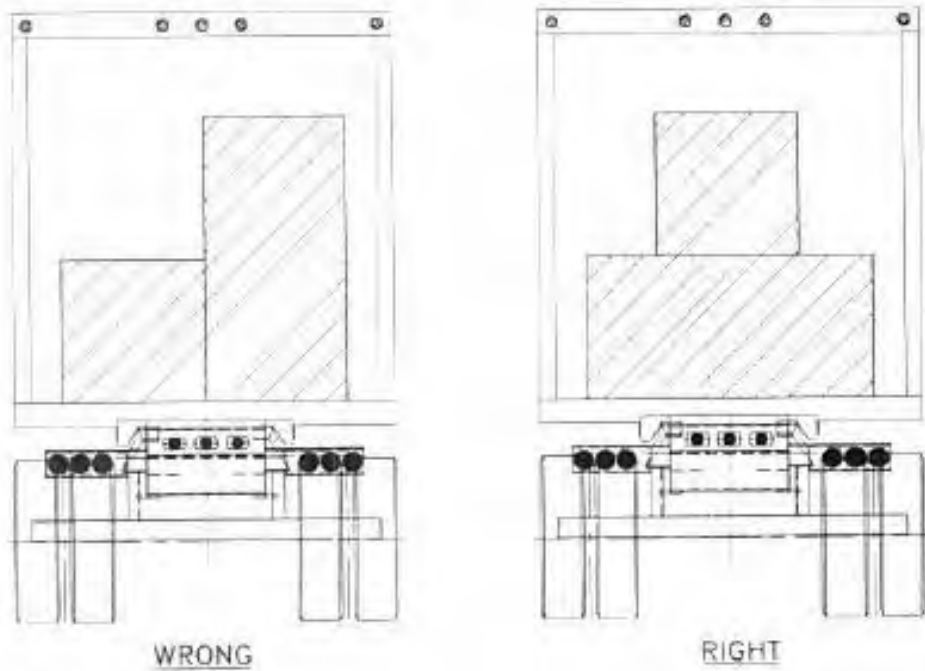

Figure 5
2. Crosswise weights should be equally distributed (Figure 5) . A heavy load should not be placed on one side. This will overload suspensions and tires on that side. Place load so that weight will be equal on rear tires, eliminating possible twisting of the frame and overloading of axle housings and wheel bearings.